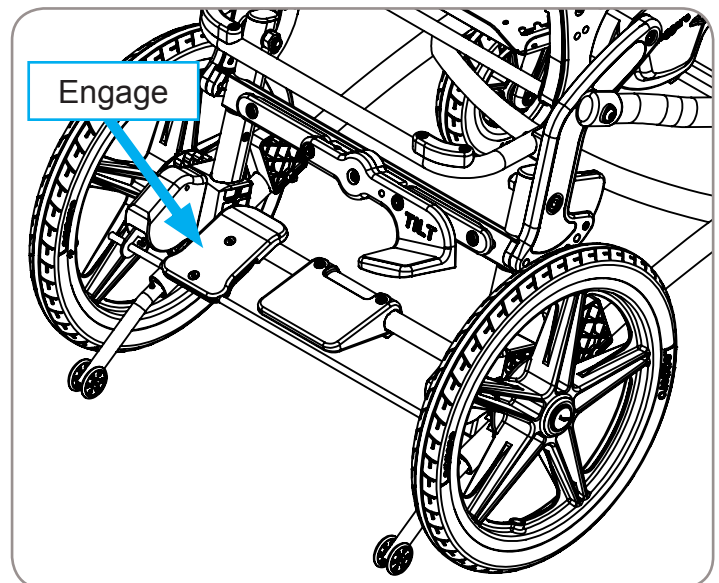

Figure 4
1. To engage wheel lock, push down on red pedal. Reference Figure 4.